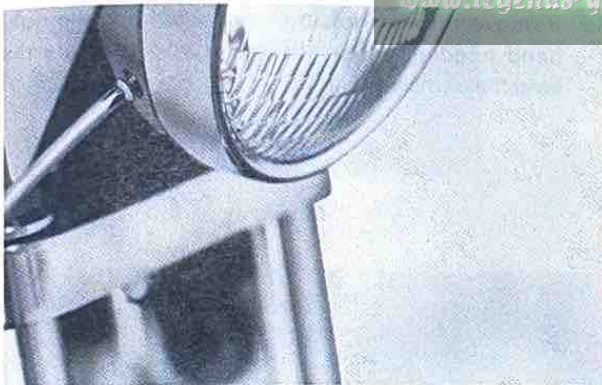

Fig. 22
15. Remove the Phillips-head anchor screw from the lower right parts of the headlight shell. Insert a slotted head screwdriver between the shell and the lens assembly mounting ring on the bottom of the headlight shell, and pry out the lens assembly. (Fig. 22)